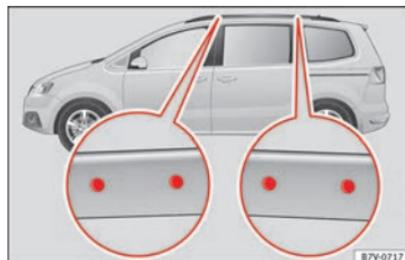

Fig. 174 Attachment points for the basic support and the roof carrier system
The position openings are located on the inner side of the side roof rods » Fig. 174.
- The base support should only be fitted to the points indicated in the diagram » Fig. 174.